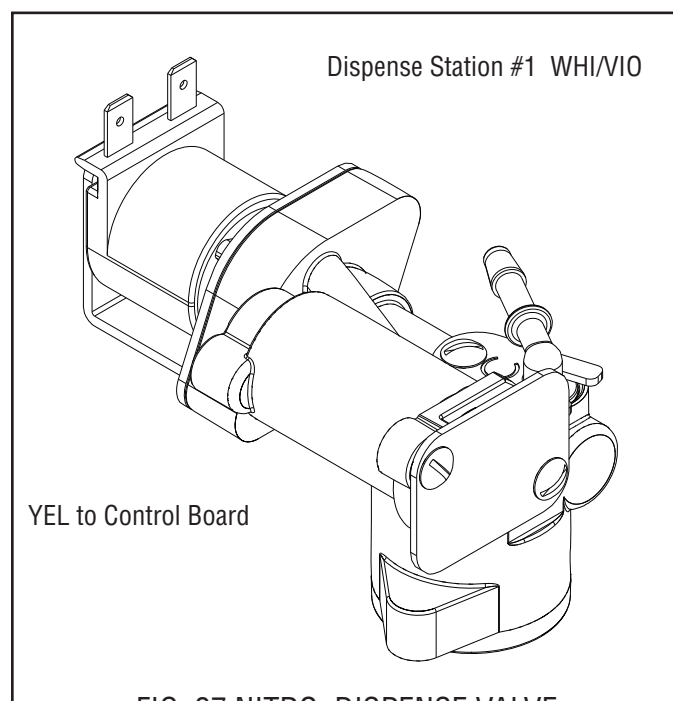

FIG. 27 NITRO DISPENSE VALVE
7. Reconnect the two wires to each valve as shown in Figs 27 and 28.